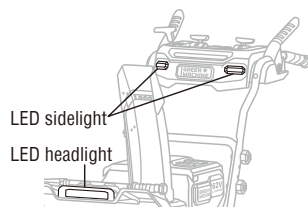

Fig. 11A
1. The LED sidelights are located on both left and right of the handle assembly. The LED headlights are located on the front of the snow housing. (Fig.11A)